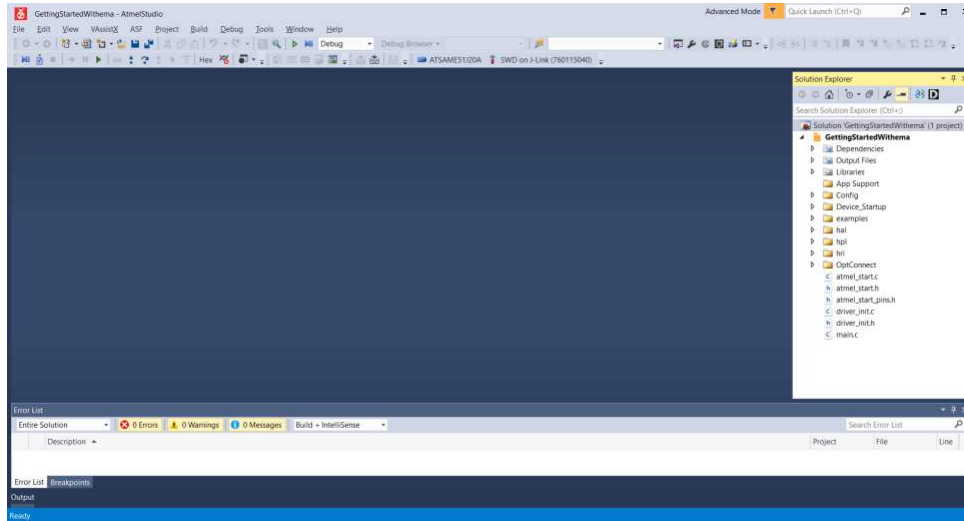

Figure 6
4. **Open the project:** Open the *GettingStartedWithemaVx.x* sample project by clicking on the "Open Project" link or selecting "File", then "Project/Solution" and navigating to the location of the *GettingStartedWithema.atsln* file that was obtained in step 2. Once the project has been opened, the screen should look similar to *Figure 6*.